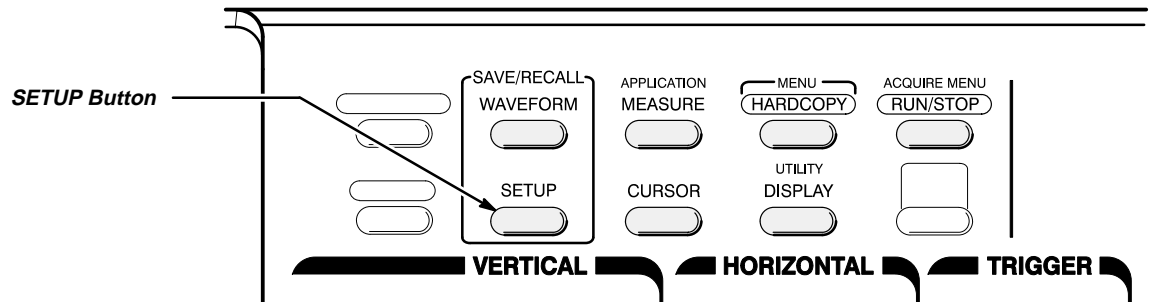

Figure 1-2: SETUP Button Location
1. Press save/recall **SETUP** (Figure 1-2).